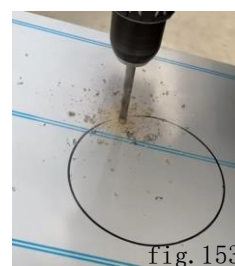

fig. 153
- drill a hole (choose a metal drill bit that is 5 mm larger than the jigsaw blade) at the marked circle. (fig. 153)